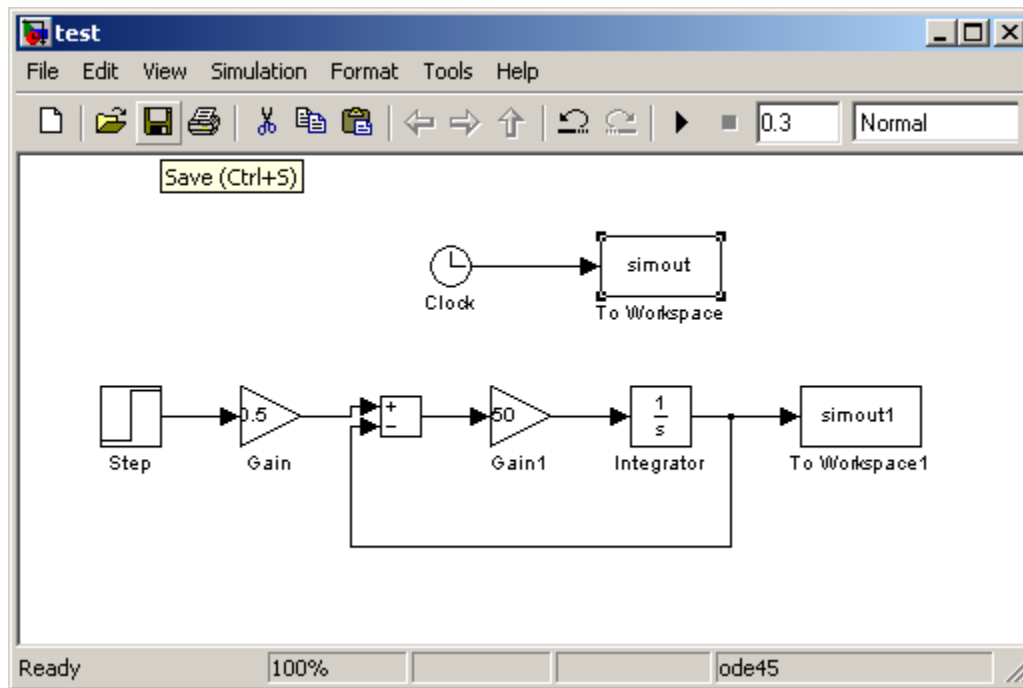

Figure 14: First-order Model with simout
- 4) Connect the simulation output (y) and the **Clock** to the two different **simout** blocks, as shown in Figure 14.